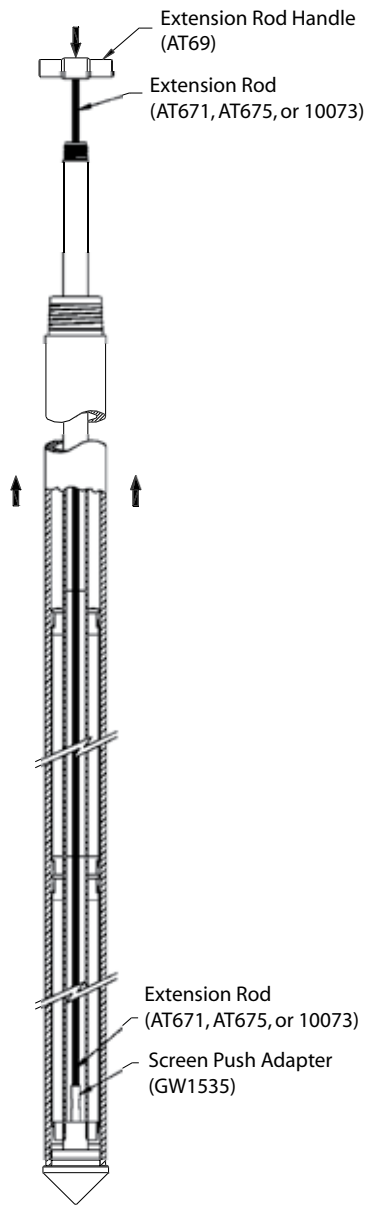

FIGURE 5.9
- d) Place a Screen Push Adapter on the end of an Extension Rod. Insert the adapter and extension rod into the PVC riser and hold either by hand or with an Extension Rod Jig. Attach additional extension rods with Extension Rod Couplers or Extension Rod Quick Links until the push adapter contacts the bottom of the screens (Fig. 5.9). Place an Extension Rod Handle on the top extension rod after leaving 3 to 4 feet (1 to 1.2m) of extra height above the last probe rod.
- e) Slowly retract the probe rods while another person pushes and taps on the screen bottom with the extension rods (Fig. 5.9). To ensure proper placement of the screen interval and to prevent well damage, be careful not to get ahead while pulling the probe rods. The risers should stay in place once the probe rods are withdrawn past the screens. Retrieve the extension rods. Place the plug back into the top riser and secure it with duct tape if necessary.